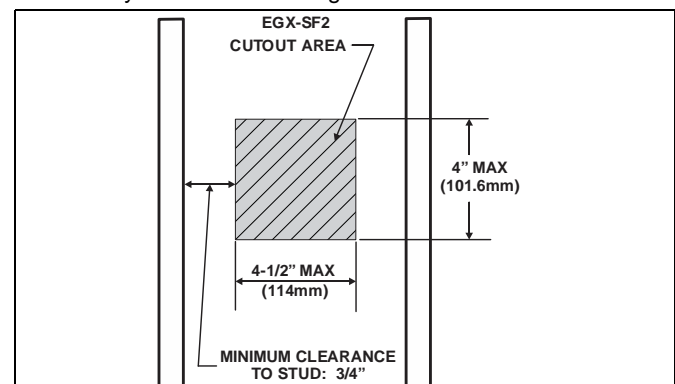

Figure 1
- Measure the marked area and compare to the dimensions shown in Figure 1. If measurements do not exceed the maximum dimensions shown in Figure 1, continue to step 5. If they do, adjust markings to match dimensions in Figure 1.